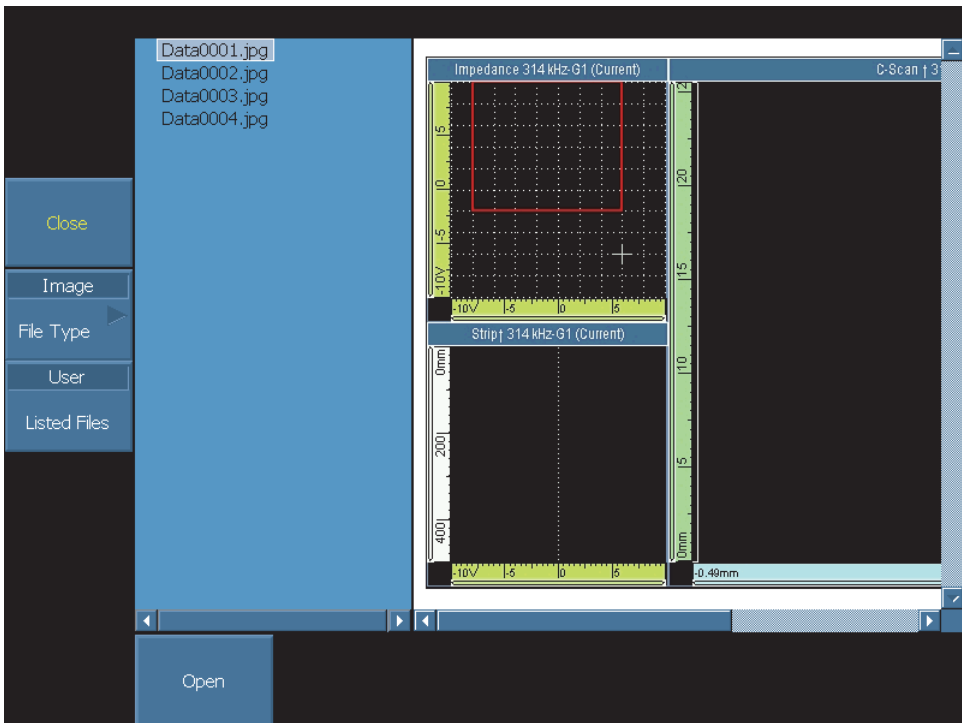

Figure 11-8 The File Manager window
1. Press the Open File key . The **File Manager** window appears (see Figure 11-8 on page 217).